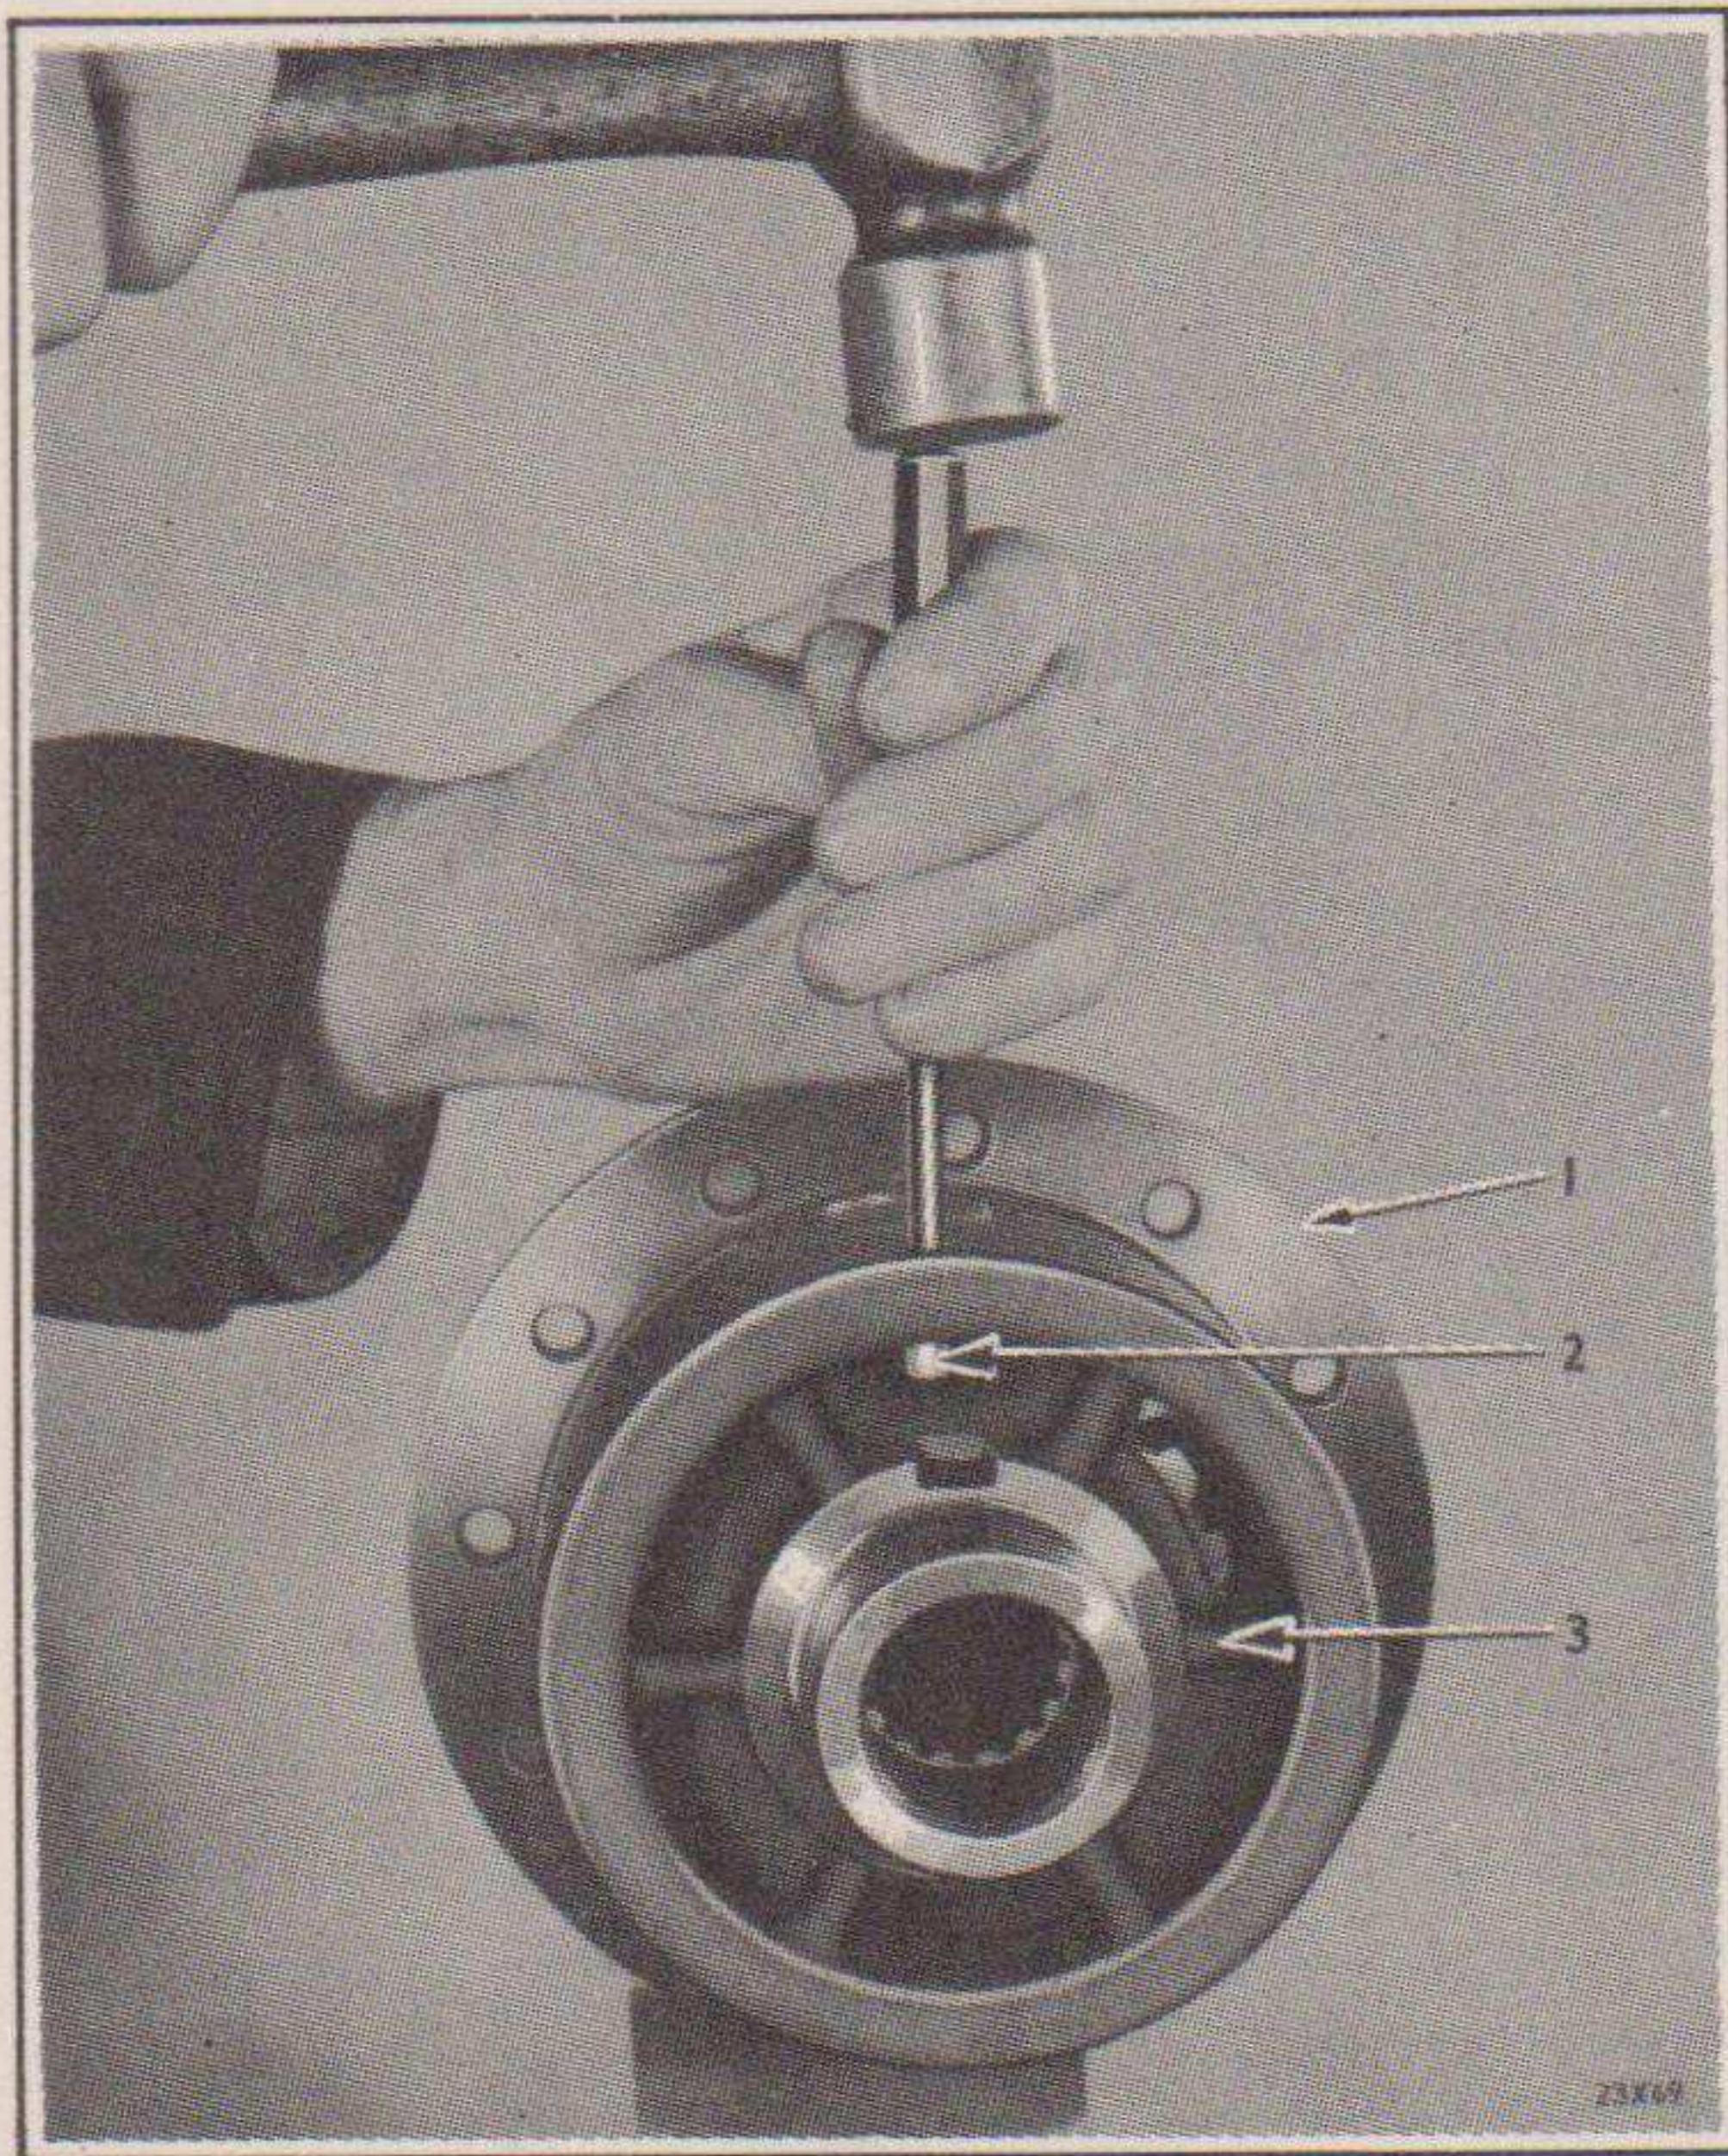

Fig. 49—Removing Differential Case Cap Lock Pin
- (d) Remove the differential case cap lock pin by driving it through the case. See Fig. 49.